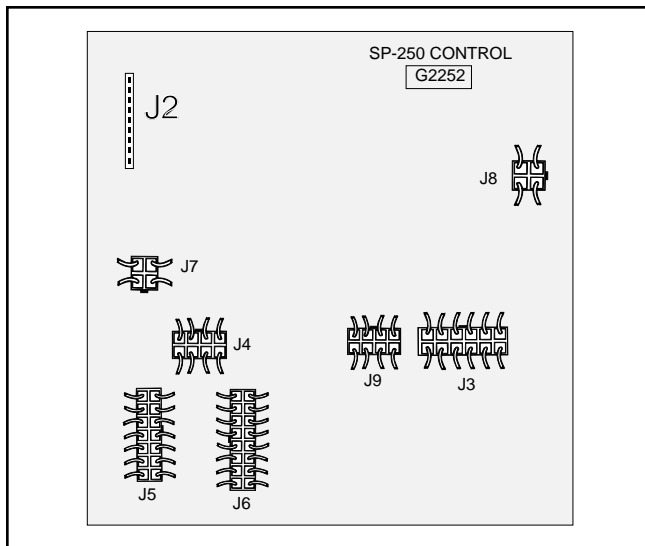

FIGURE F.8A - Plug J2 Location on G2252 PC Control Board.
3. Locate and disconnect Plug J2 connected to the Control PC Board. See Figures F.8A and F.8B.